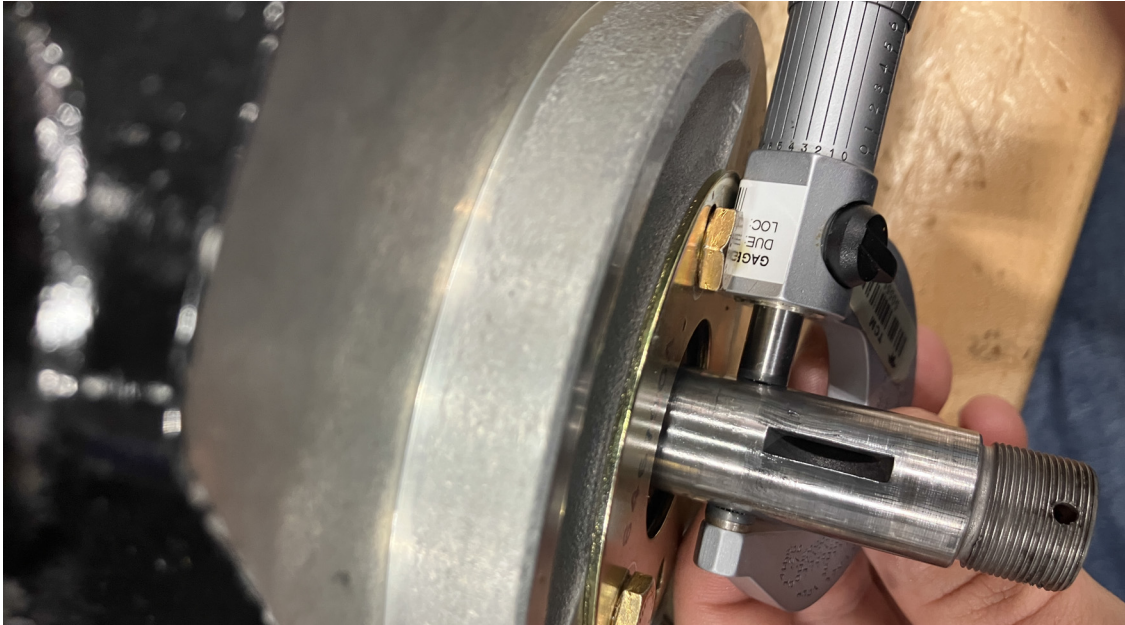

Figure 2. Measure Shaft Diameter
8. Measure the diameter of the exposed alternator rotor shaft between the keyway and the alternator housing (See Figure 2) using a 0 - 1 inch micrometer (with 0.0001" graduation), with the micrometer jaws perpendicular to the rotor shaft. Repeat the measurement at two additional points 120 degrees apart from the previous measurement. The minimum shaft diameter is 0.6691 inch.